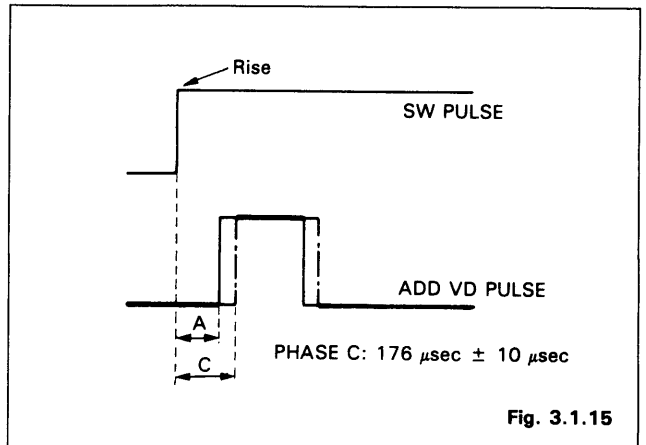

Fig. 3.1.15
2. Adjust VR707 (SLOW) so that the width "C" becomes $176 \mu\text{sec} \pm 10 \mu\text{sec}$ as shown in Fig. 3.1.15.